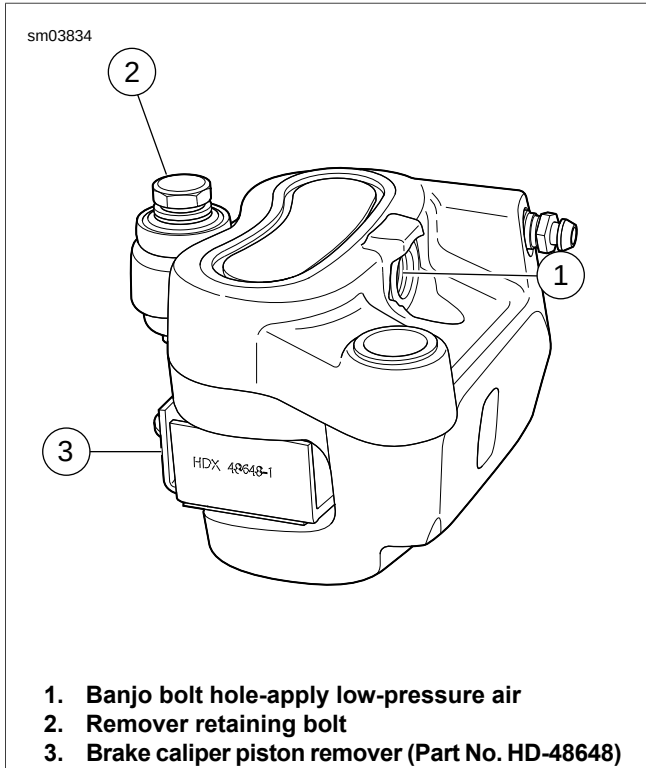

Figure 2-66. Removing Pistons
3. See Figure 2-66. Remove pistons.
- a. Place BRAKE CALIPER PISTON REMOVER (Part No. HD-48648) (3) into caliper housing. Install bolt (2) only enough to hold tool in place.